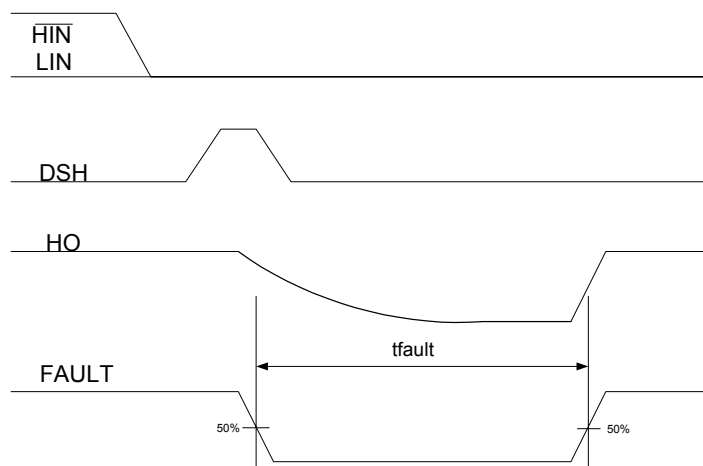

Figure 11 Fault Duration with Pending Faultclear Waveform
- LD2- Soft shutdown is initiated in an event of overcurrent, which is followed by turn-off all six outputs. The fault condition will remain in a fixed period(t_{fault}) even though the faultclear condition is in effect (Fig11). In the case that faultclear is not in effect, fault duration = $t_{fault} + t_{fclr}$.